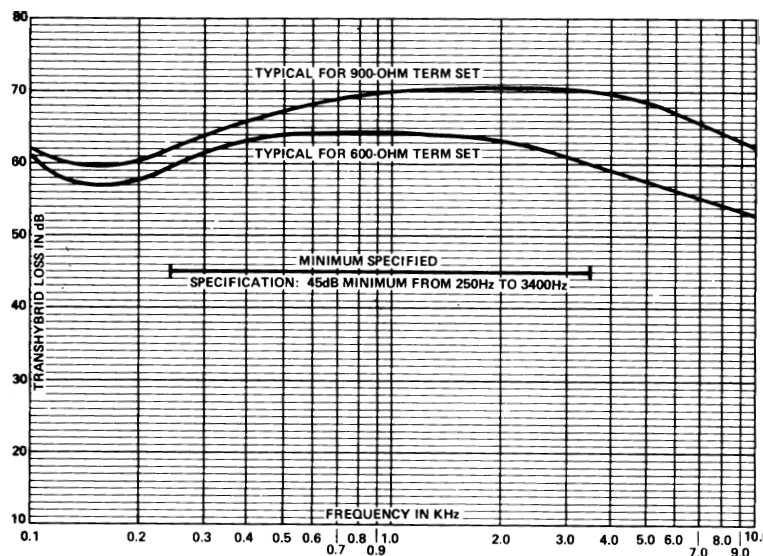

Figure 5. Trans-hybrid Loss Specification
- (c) TRANS-HYBRID LOSS: As specified in Figure 5.